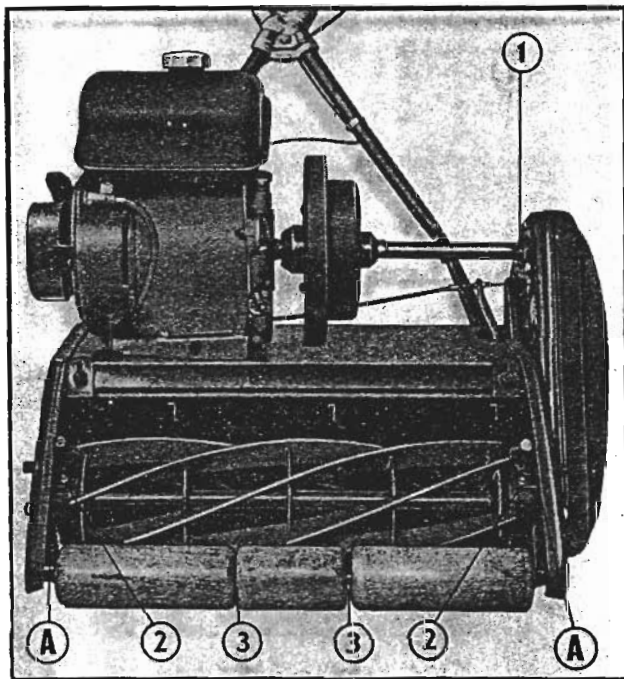

Fig. 10
1. Clutch shaft through nipple in shaft. (fig. 10).
2. Cutting cylinder bearings through nipples on either side of machine. (fig. 10).
3. Wood rolls. Oil spindle between rolls. (fig. 10).